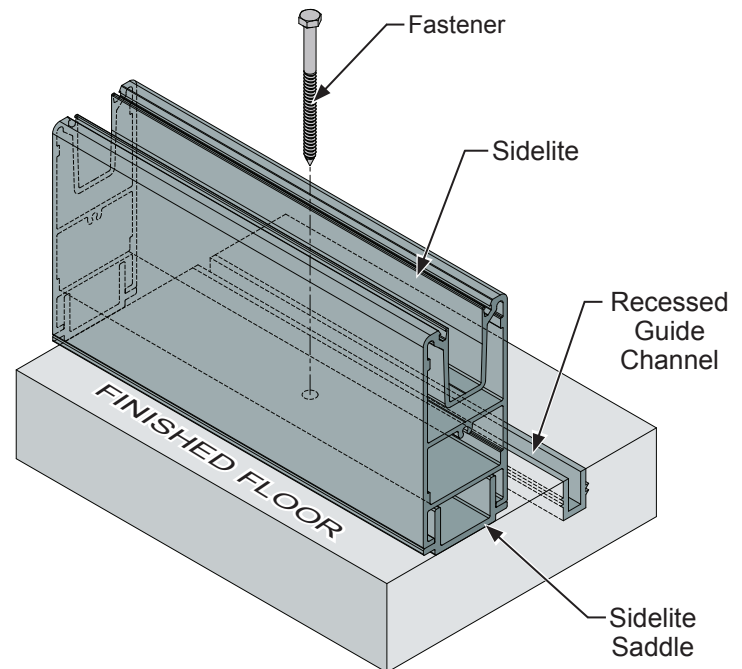

FIG. 5
2. Position and secure the sidelite saddle to the floor with #10 screws (not provided), screw lengths should be a minimum of 1" (25 mm). Position the sidelite onto the saddle and drill clearance holes for the fasteners, they should be slightly larger than the diameter of the fastener. Drill a second hole large enough for the tool that is needed to drive the mounting fastener but **Do Not** drill through the last web at the bottom of the rail. Make sure the fastener is long enough to make proper structural embedment into the mounting surface and insert the fastener. **(Fig. 5)** The spacing between the sidelite and guide channel should be 2-3/8" (60 mm) between centers. **(Fig. 6)**